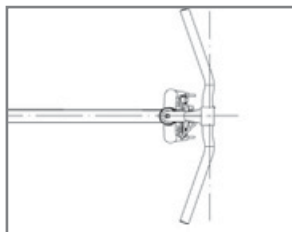

Fig. 1. Handlebars setting
2. Remove the lower part of the handlebars support in the stem of the fork so the line limiting maximum protrusion is not visible. Tighten the support with a dynamometric key using moments listed in this manual, setting the handlebars perpendicularly to the bicycle axis. Fig. 1.